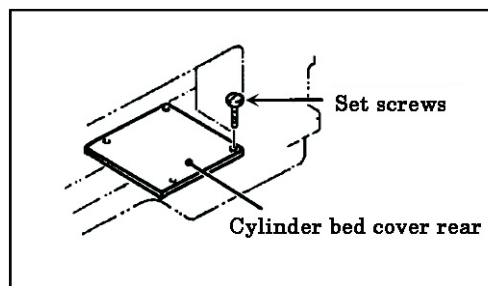

Fig.1
3. Remove the 4 set screws, and remove the rear cylinder bed cover.(Fig. 1)